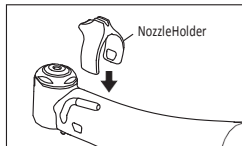

Fig.6
- 1) Attach the Nozzle Holder. (Fig.6)